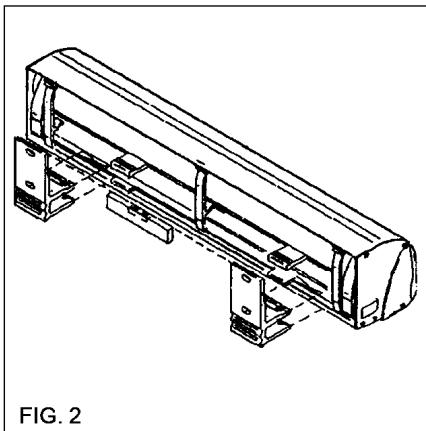

FIG. 2
- The position is marked at the back of the square tube (fig. 2).
- Fix the brackets in a straight horizontal line on the right place with a max. deviation of 2 mm (fig. 2).